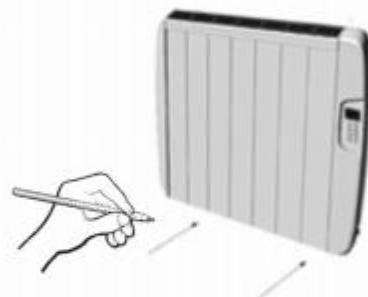

Fig. 10
6. When the radiator is hung in place, make two marks on the wall where the two brackets (A) will be fixed to ensure that the appliance is secured to the wall (Figure 10).